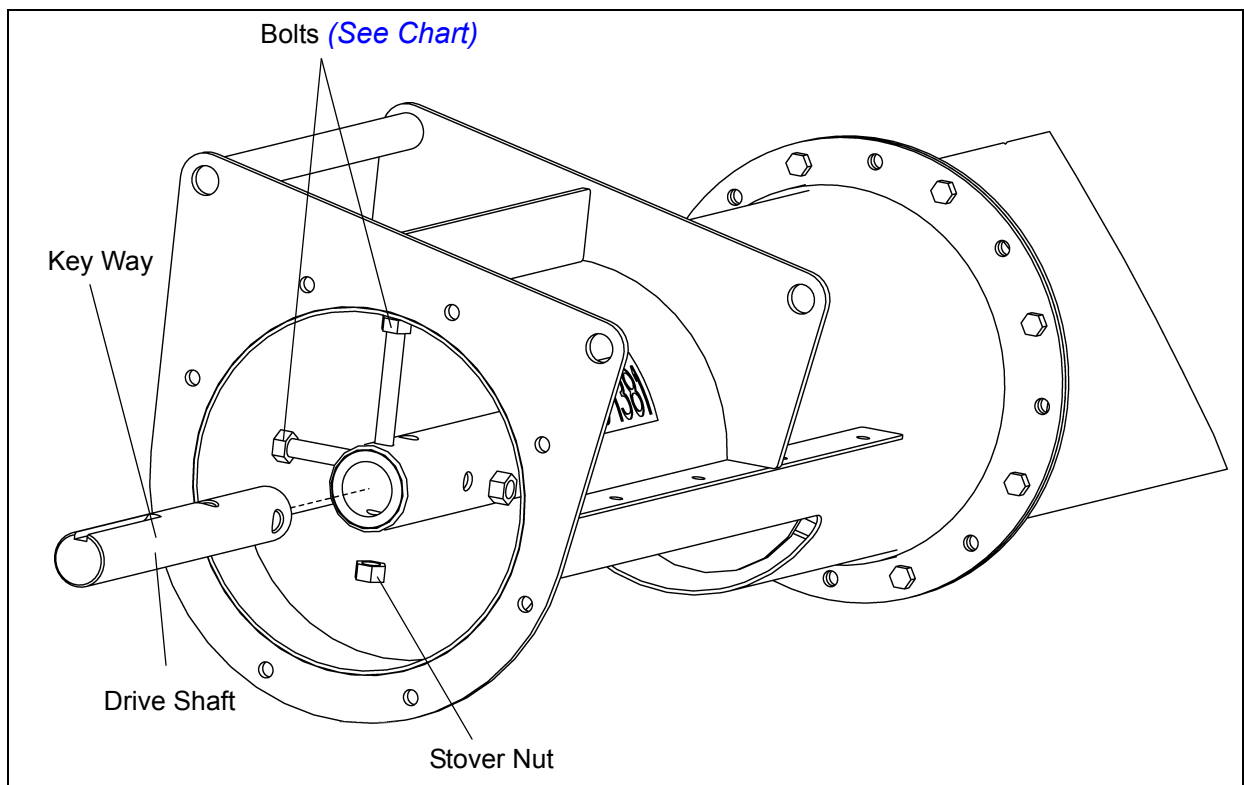

Figure 4K
1. Insert the Drive Shaft into the opposite end of flight with keyway facing outward. Align the holes in the shaft and secure with Grade 8 bolts and stover nuts (See Chart) and (Figure 4K).